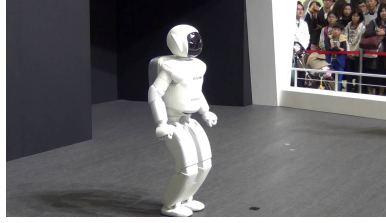

Figure 2: Honda Asimo robot.
- iii. Honda Asimo robot (See Figs. 2 and 3) is one of the most prominent walking robots in the world. The robot has a unique pattern of walking in which the knees of the robot remain bent during walking. On the contrary, human walks straight up to improve the efficiency of walking. Using the concept of the velocity and force manipulability of a robot, provide the explanations or motivations for this unique robotic walking pattern.